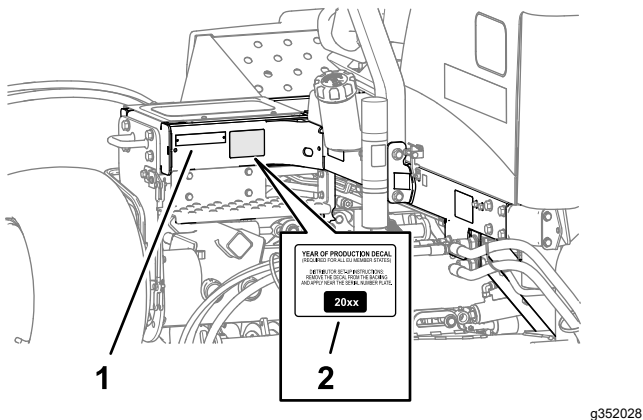

Figure 21
1. Wipe clean the left frame near the model/serial plate with alcohol, and allow the frame to dry (Figure 21).
2. Remove the backing and apply the Year of Production decal to the frame near the serial plate as shown in Figure 21.